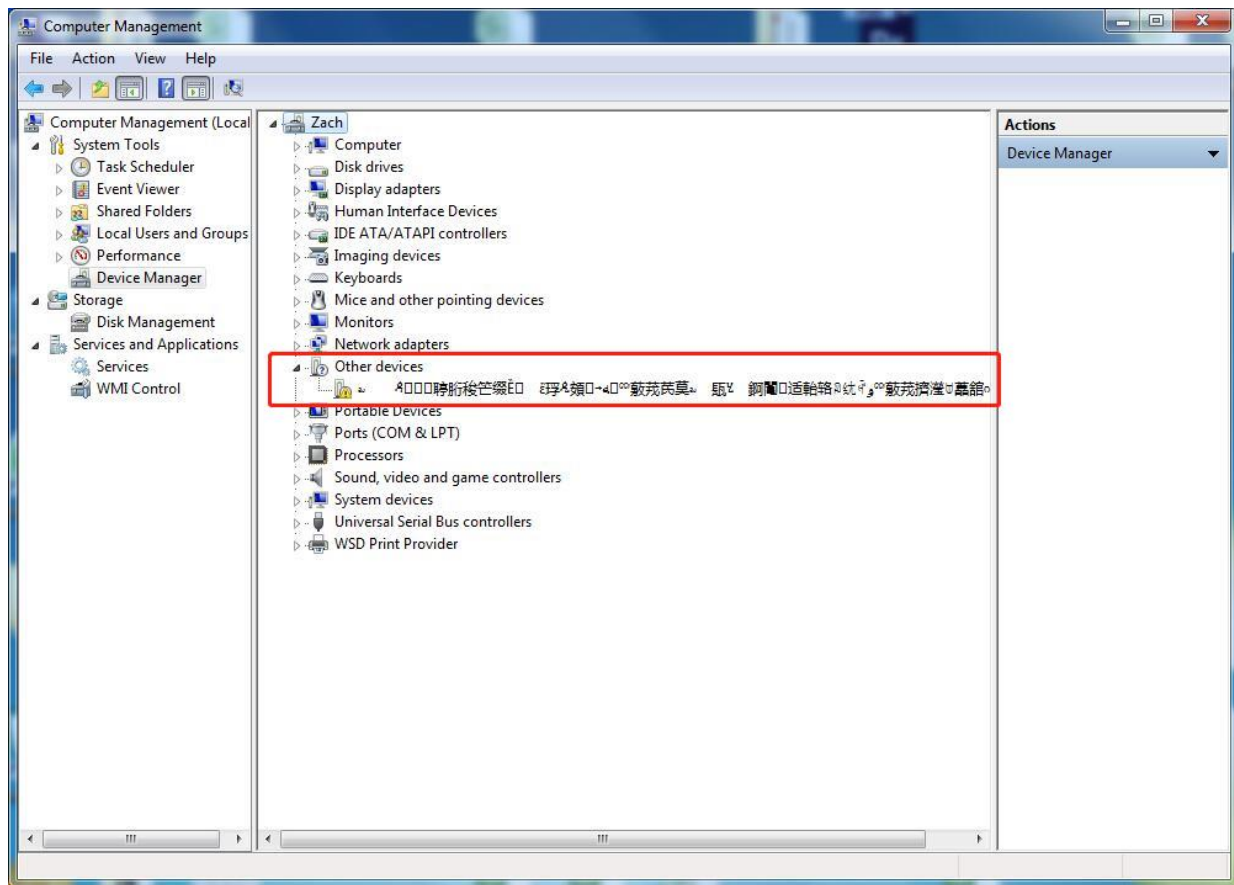

Figure 1.2 The driver failed to install the interface
- 2) The driver has been installed successfully. Then we open the IDE and select the corresponding development board model and port in the toolbar. If it appears as shown in figure 1.2, the computer does not recognize the development board and needs to install the driver.